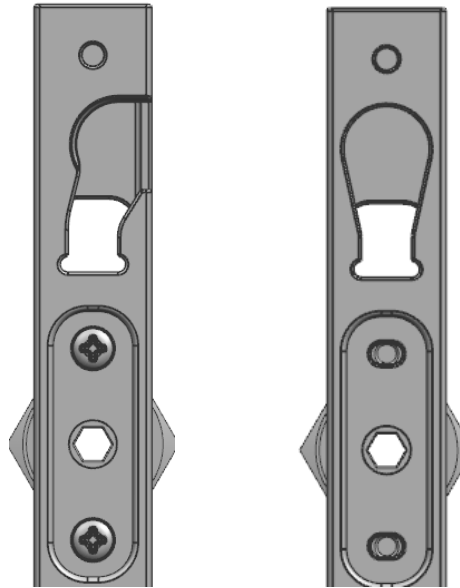

Fig 5. Different Shapes of IER Frame and F Frame Cabinet Joints (Directional)
- Different from the IER Frame, be careful upon installation because the Frame F has no direction for left and right. (Fig 5)